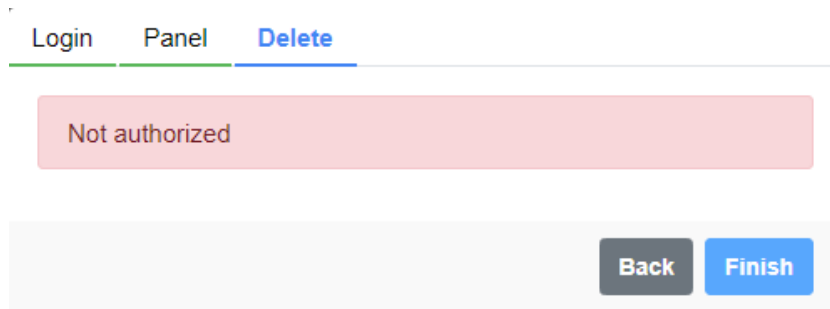

Figure 6.20: Failed to unlink the Drive Scan from the MFM
Step 15 If successful, proceed to **Step 16**. If an error message pops up (Figure 6.20), check its content and click on: